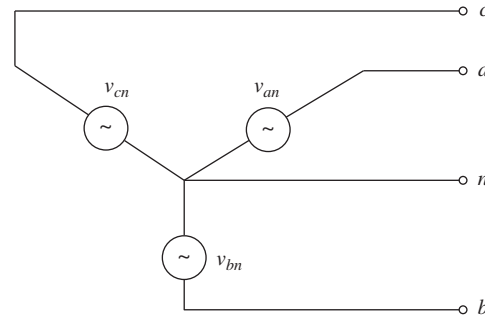

Figure P6.36 A balanced three-phase circuit.
- 6-36.** In the three-phase circuit shown in Fig. P6.36, $v_{ab}(t) = v_{an}(t) - v_{bn}(t)$, where $v_{an}(t) = 120 \sin(120 \pi t)$ V and $v_{bn}(t) = 120 \sin(120 \pi t - 120^\circ)$ V are the
- 6-38.** In the three-phase circuit shown in Fig. P6.36, $v_{ca}(t) = v_{cn}(t) - v_{an}(t)$, where $v_{cn}(t) = 120 \sin(120\pi t + 120^\circ)$ V and $v_{an}(t) = 120 \cos(120\pi t - 90^\circ)$ V are the line-to-neutral voltages and v_{ca} is the line-to-line voltage of the three-phase system.